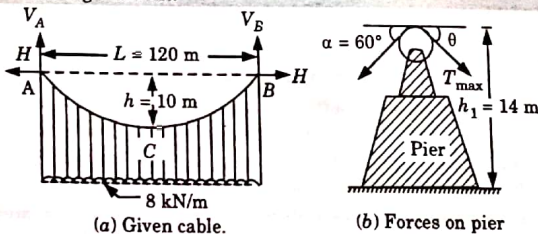

Fig. 3.
- i. Referring to Fig. 3(b), horizontal force transmitted to pier